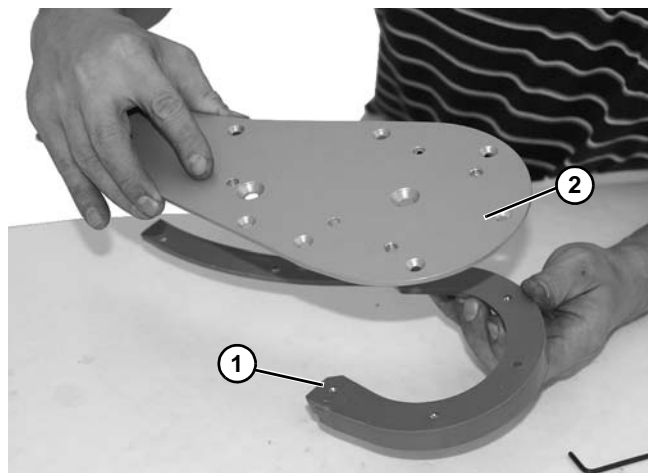

Figure 130
2. Remove retaining guide (Figure 130, item 1) from idler head plate assembly (Figure 130, item 2). Replace components, as needed.